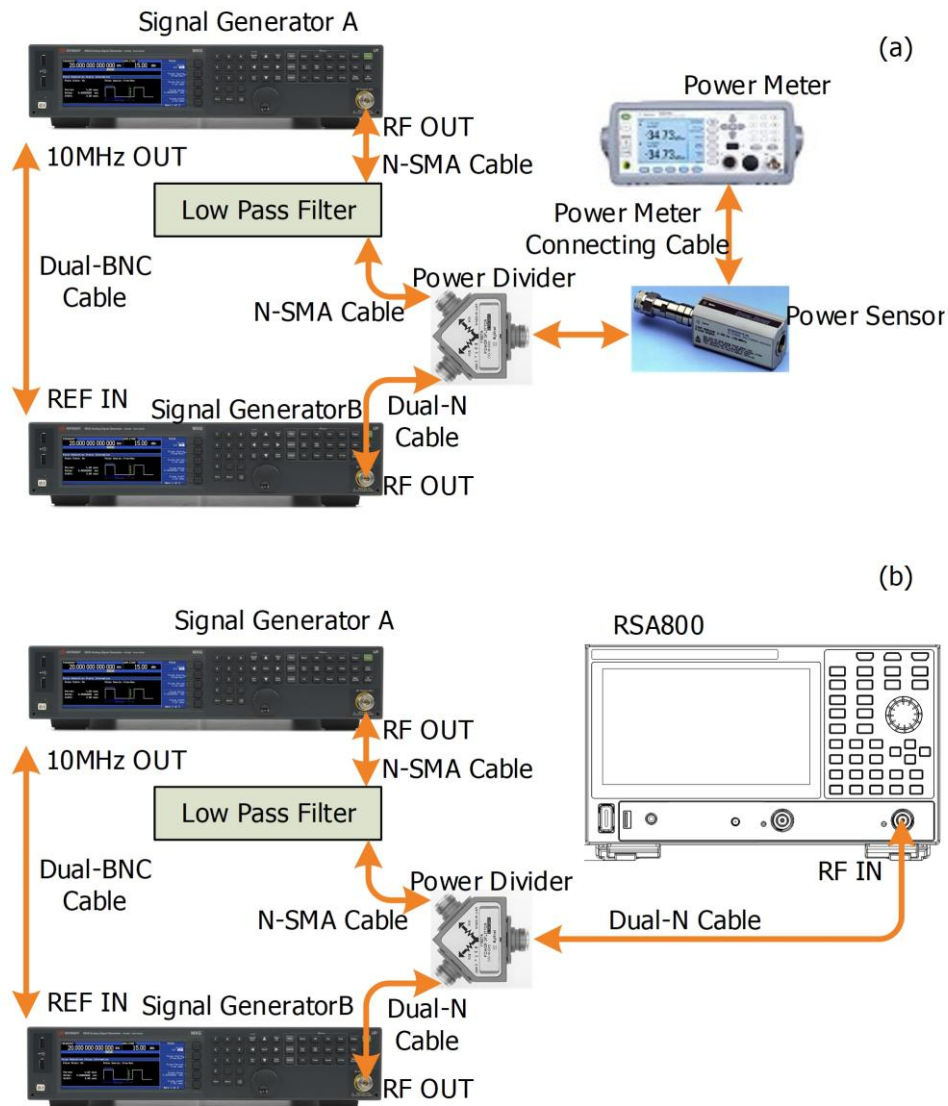

Figure 4.6 TOI Distortion Test Connection Diagram
4. Connect the output terminal of Signal Generator B with the power divider. Connect the power divider with the power sensor, as shown in Figure 4.6 (a).
7. Enable the outputs of the two signal generators. Disconnect the power divider from the power sensor; connect the power divider with the spectrum analyzer, as shown in Figure 4.6 (b).